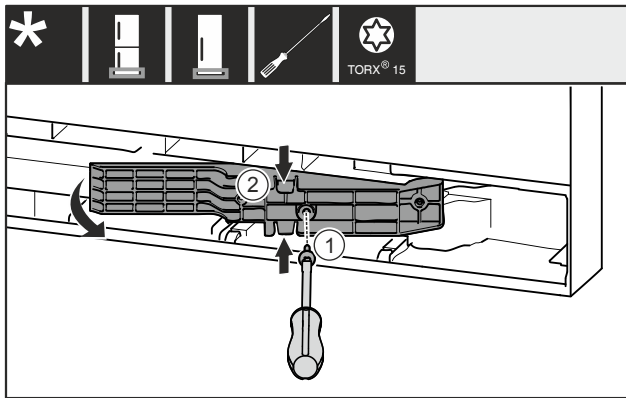

Fig. 20 *
- Remove the screw Fig. 20 (1)*
- Gently press the adapter piece Fig. 20 (2) together at the top and bottom and pull it out.*